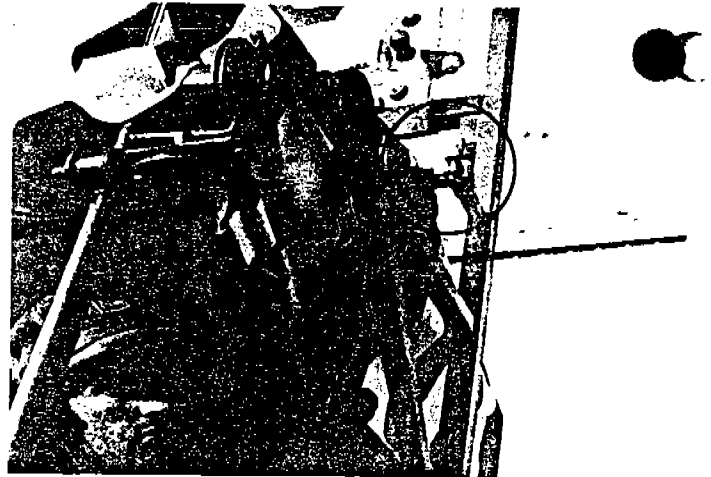

Fig. 26
- d. Working from the upper platform, pin the sign in the upright position to the canopy support frame. Snap key in place. (Fig. 26).